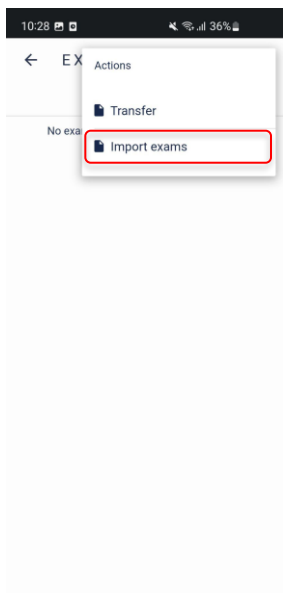

Figure 27 - Import images screen
3. Select "import exams, figure 27